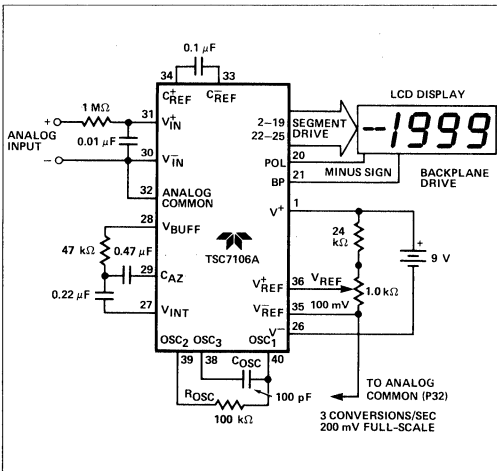
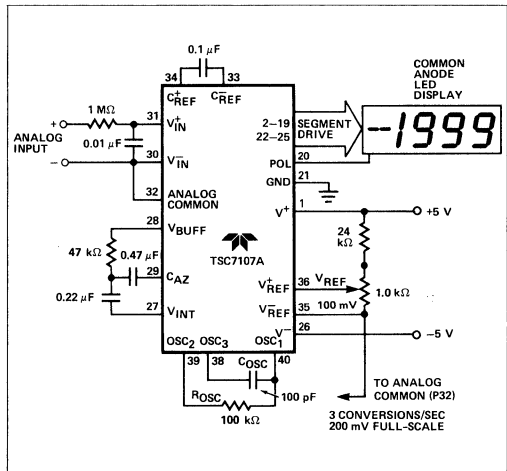

Figure 1: Typical TSC7106A Operating Circuit
Figure 2: Typical TSC7107A Operating Circuit
- of Figure 1. TSC7107A is tested in the circuit of Figure 2.